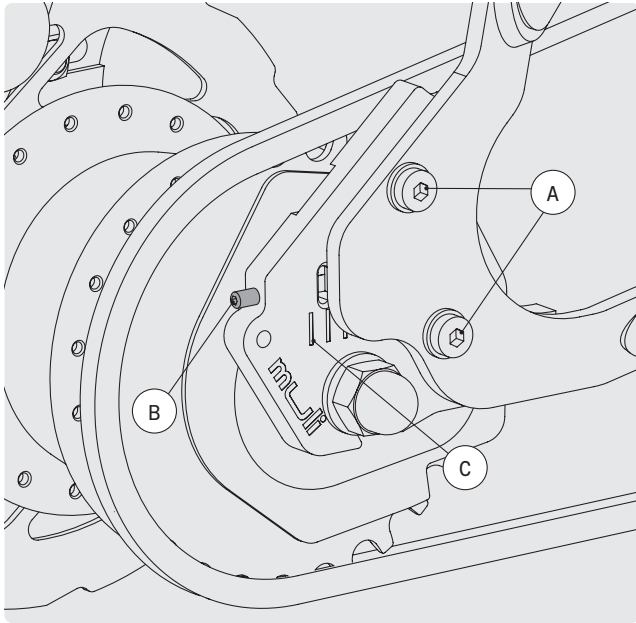

FIG. 48
- 1 Loosen both M6 hexagon socket screws A on the holder of the dropout with a 5 mm hexagon wrench (Fig. 48).